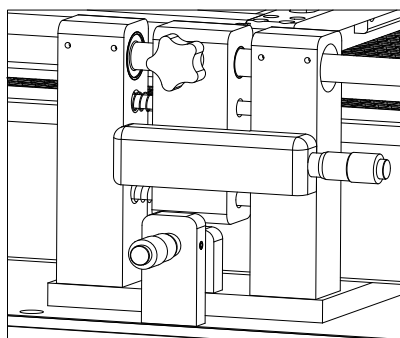

Figure18: PCB clip micro-adjust knob
10、 Pull out the optical alignment system by manual as the Figure (16), in that time will show BGA bottom pad and PCB board with two interlaced images on the CCD monitor.
11、 As Figure (16) you can adjust the focus of optical lence in the arrow position;
12、 Adjust PCB board X、 Y axis micro-adjust knob(Figure 18) and BGA micro-adjust knob (Figure 17), make two images together completely, and the positioning is finished very well;
13、 after finished the positioning, turn the optical system back to the origin position, and click Figure (12) positioning completed knob;
1. Back to the boot screen, (Figure18); click “OPERATION”, (Figure18), then it will show operation curve screen. (Figure19)